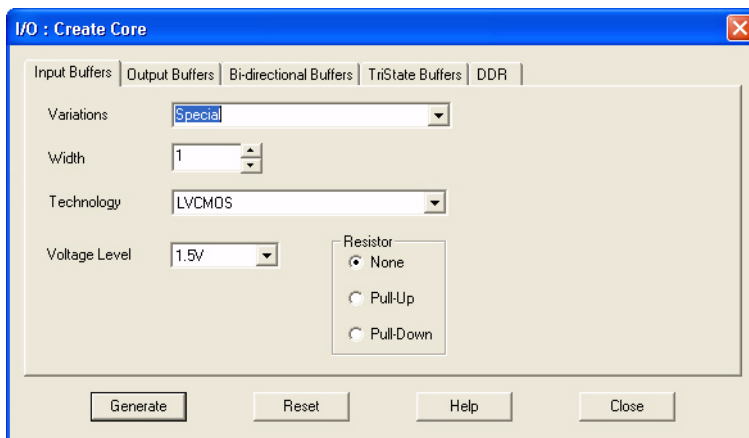

Figure 8-4 • I/O Create Core Window
- Double-click any of the varieties. The I/O Create Core window opens (Figure 8-4).
As seen in Figure 8-4, there are five tabs to configure the I/O macro: Input Buffers, Output Buffers, Bidirectional Buffers, Tristate Buffers, and DDR.
The **Special** variation has Width, Technology, Voltage Level, and Resistor Pull-Up/-Down options (see Figure 8-4). All the I/O standards and supply voltages (V_{CC1}) supported for the device family are available for selection.